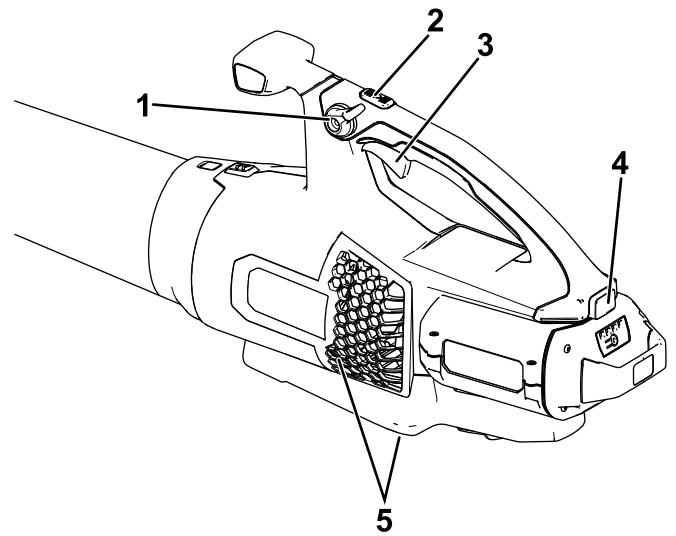

Figure 9
4. To start the blower, squeeze the variable-speed trigger (Figure 9).
**Note:** Engage the speed lock to keep the machine on without pressing the variable-speed trigger (Figure 9).
To achieve maximum performance (air speed), fully depress the variable-speed trigger, then press and hold the turbo boost button for the desired amount of time (Figure 9).
To adjust the air speed as you blow, use the variable-speed trigger (Figure 9).
To maintain the current air speed, engage the speed lock (Figure 9).
To shut off the blower, disengage the speed lock (if in use) and release the variable-speed trigger (Figure 9).